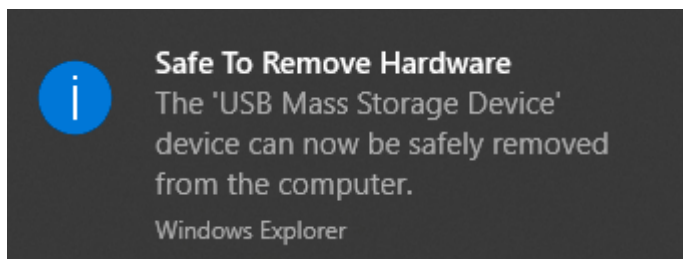

Figure 12
8. Right click this icon and select the option to eject. Wait until you see the message (fig. 12) telling you it is safe to remove the USB before disconnecting the USB drive from the computer.